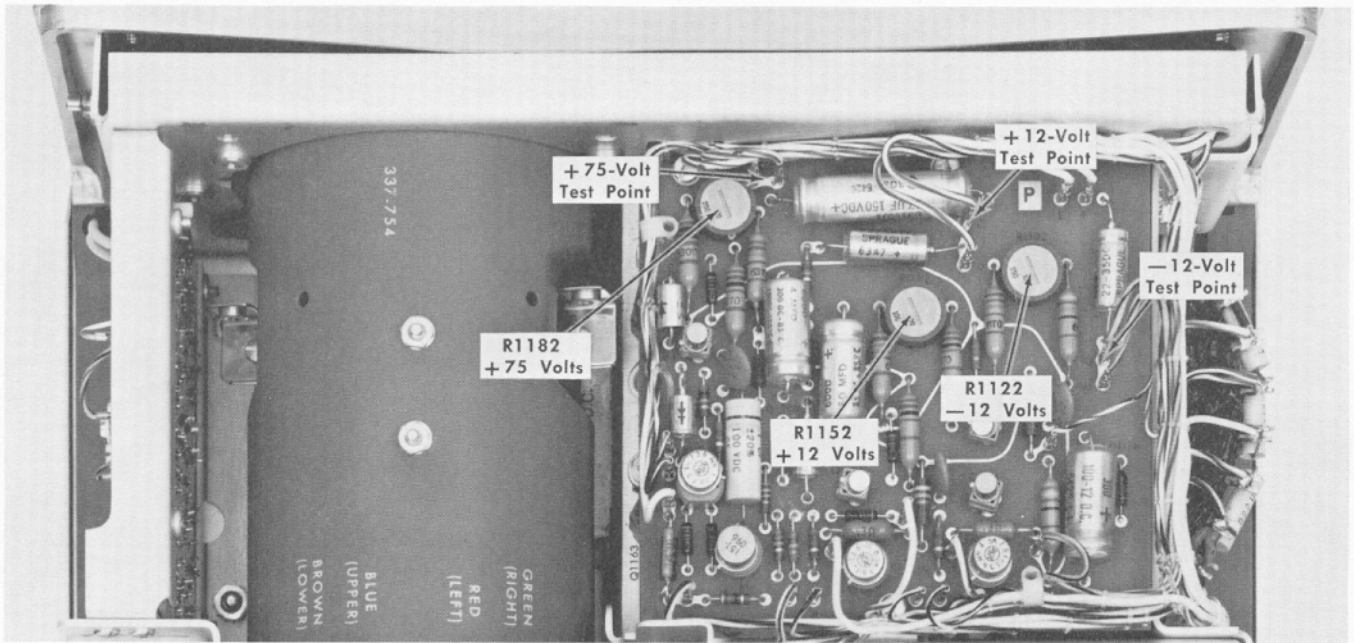

Fig. 6-5. Low-voltage test points and adjustment (Low-Voltage Regulator board).
- b. Connect the precision dc voltmeter from the —12-volt test point (pin connector 'G', Low-Voltage Regulator board; see Fig. 6-5) to chassis ground.
- d. Adjust— —12 Volts adjustment, R1122 (see Fig. 6-5), for —12 volts.
- e. Adjust— +12 Volts adjustment, R1152 (see Fig. 6-5), for +1 volt.
- i. Connect the precision dc voltmeter from the +12-volt test point (pin connector 'C', Low-Voltage Regulator board; see Fig. 6-5) to chassis ground.
- b. Connect the precision dc voltmeter from the +75-volt test point (pin connector 'B', Low-Voltage Regulator board; see Fig. 6-5) to chassis ground.
- d. Adjust— +75 Volts adjustment, R1182 (see Fig. 6-5), for +75 volts.
230-volts nominal). Power-supply test points are shown in Fig. 6-5. Fig. 6-8 shows typical test oscilloscope display of ripple.